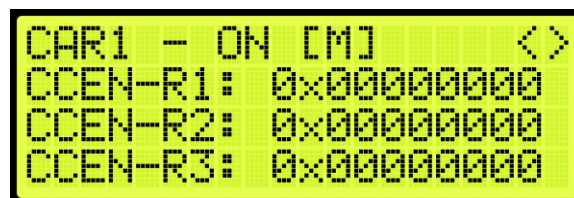

Figure 376: Rear Car Call Enable Bitmap Status Menu
16. From the Rear Car Call Enable Bitmap Status (See Figure 376), press the right button.